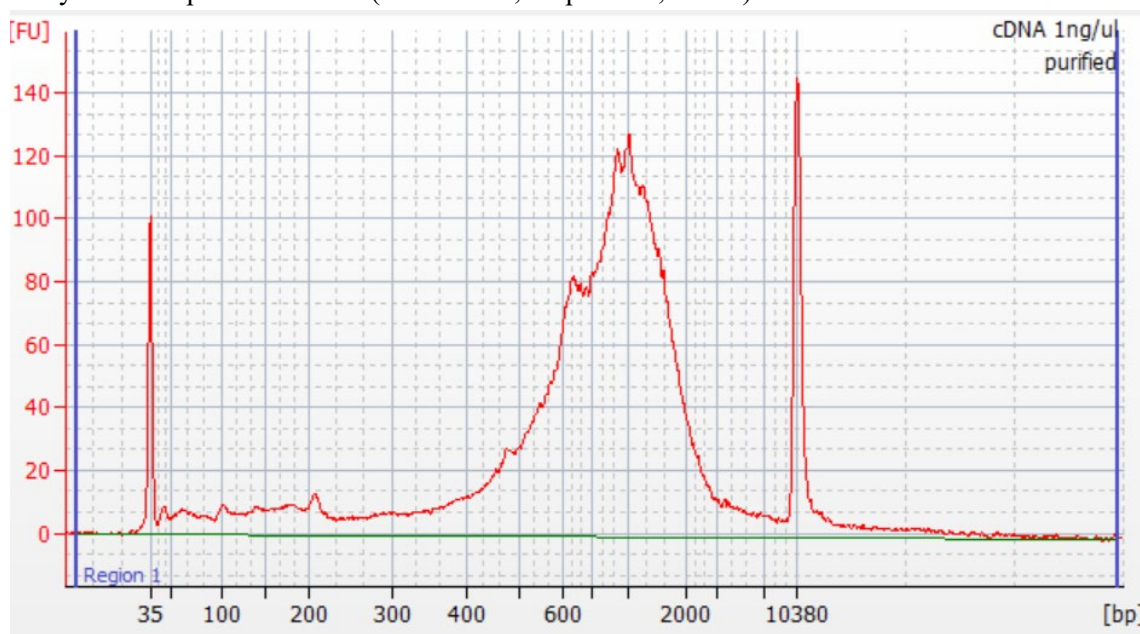

Figure 47. Typical Bioanalyzer trace for purified full-length cDNA that has been normalized to 1 ng/μl.
19. Use the Bioanalyzer results to determine cDNA quality (see Figure 47, below, for an example of a typical Bioanalyzer profile for a successfully purified cDNA product).